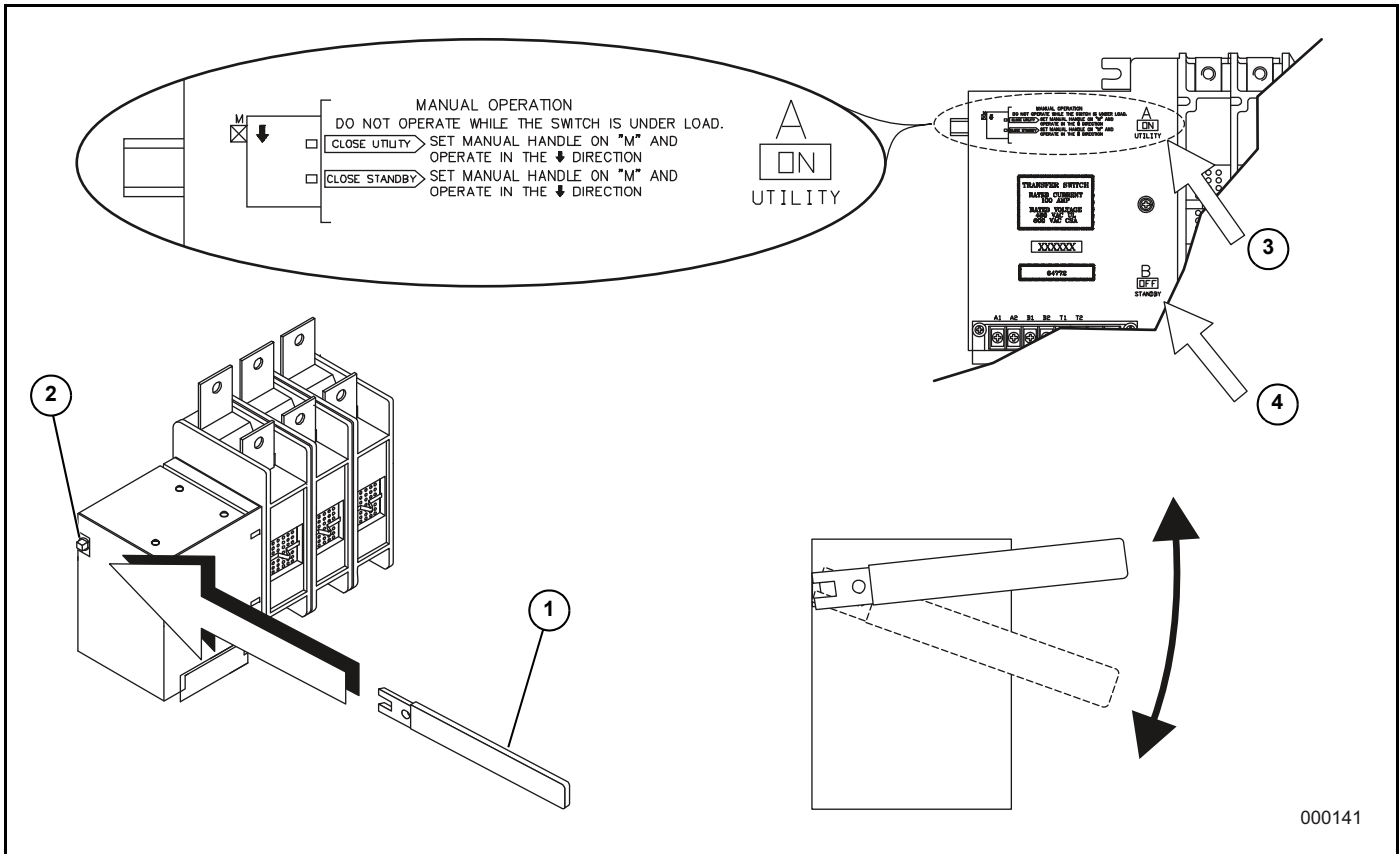

Figure 4-1. Actuating Transfer Switch
A manual handle is shipped with the transfer switch. See 1 in Figure 4-1. Manual operation must be checked BEFORE the transfer switch is operated electrically. To check manual operation, proceed as follows:
3. Note position of transfer mechanism main contacts by observing display windows in “A” and “B” (3 and 4 in Figure 4-1) as follows:
Before proceeding, verify the position of the switch by observing Window “A” in Figure 4-1. If Window “A” reads “ON”, the contacts are closed in the normal position, no further action is required. If it reads “OFF”, proceed as follows:
- Attach handle attached to actuating shaft (see 2 in Figure 4-1). Move handle in the direction of the arrow on the switch cover until it stops — DO NOT FORCE. Release handle slowly to allow the spring in the switch box to relax. “ON” now appears in Window “A” and “OFF” appears in Window “B”.
Before proceeding, verify the position of the switch by observing Window “B” in Figure 4-1. If Window “B” reads “ON”, the contacts are closed in the EMERGENCY (STANDBY) position. No further action is required. If it reads “OFF”, proceed as follows:
- Attach handle to actuating shaft (see 2 in Figure 4-1). Move the handle in the direction of the arrow on the switch cover until it stops - DO NOT FORCE. Release handle slowly to allow the spring in the switch box to relax. “OFF” now appears in Window “A” and “ON” appears in Window “B”.